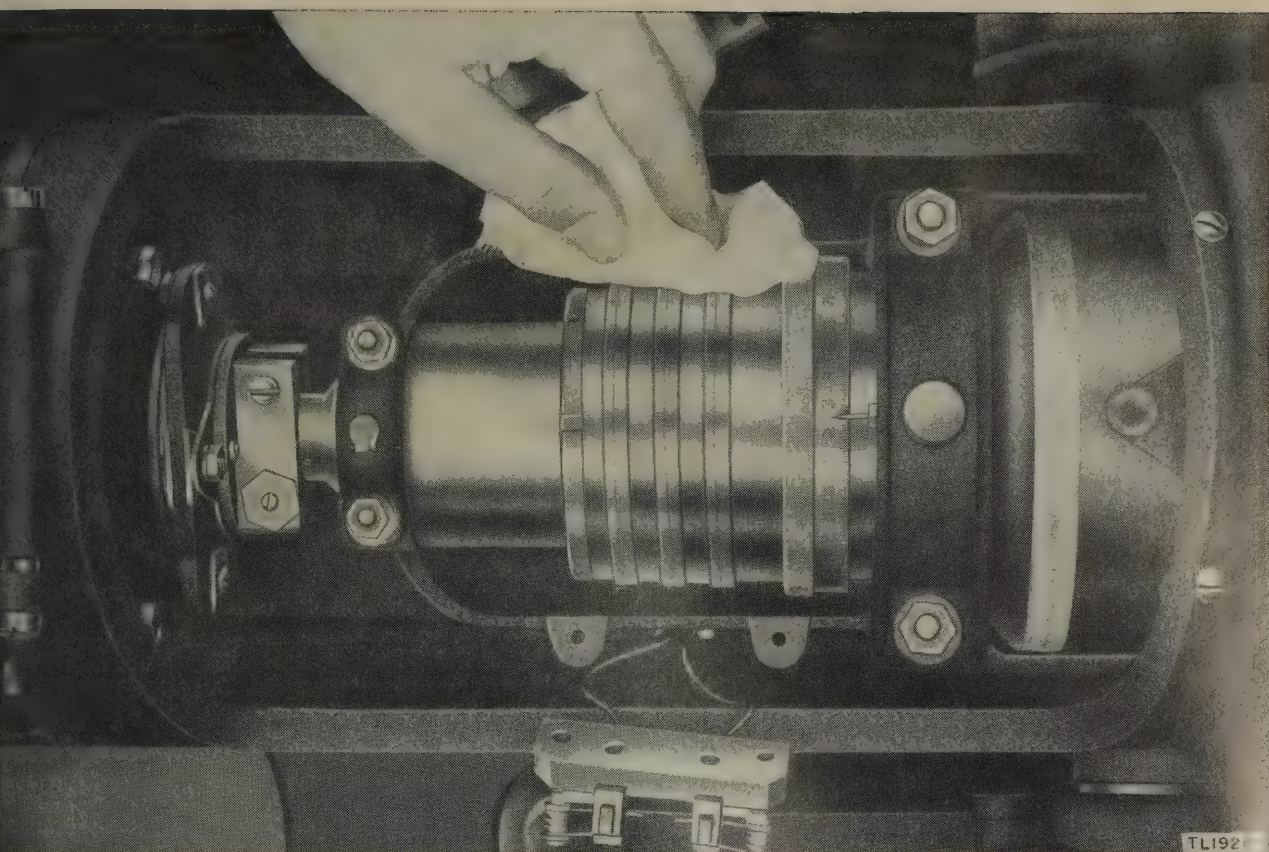
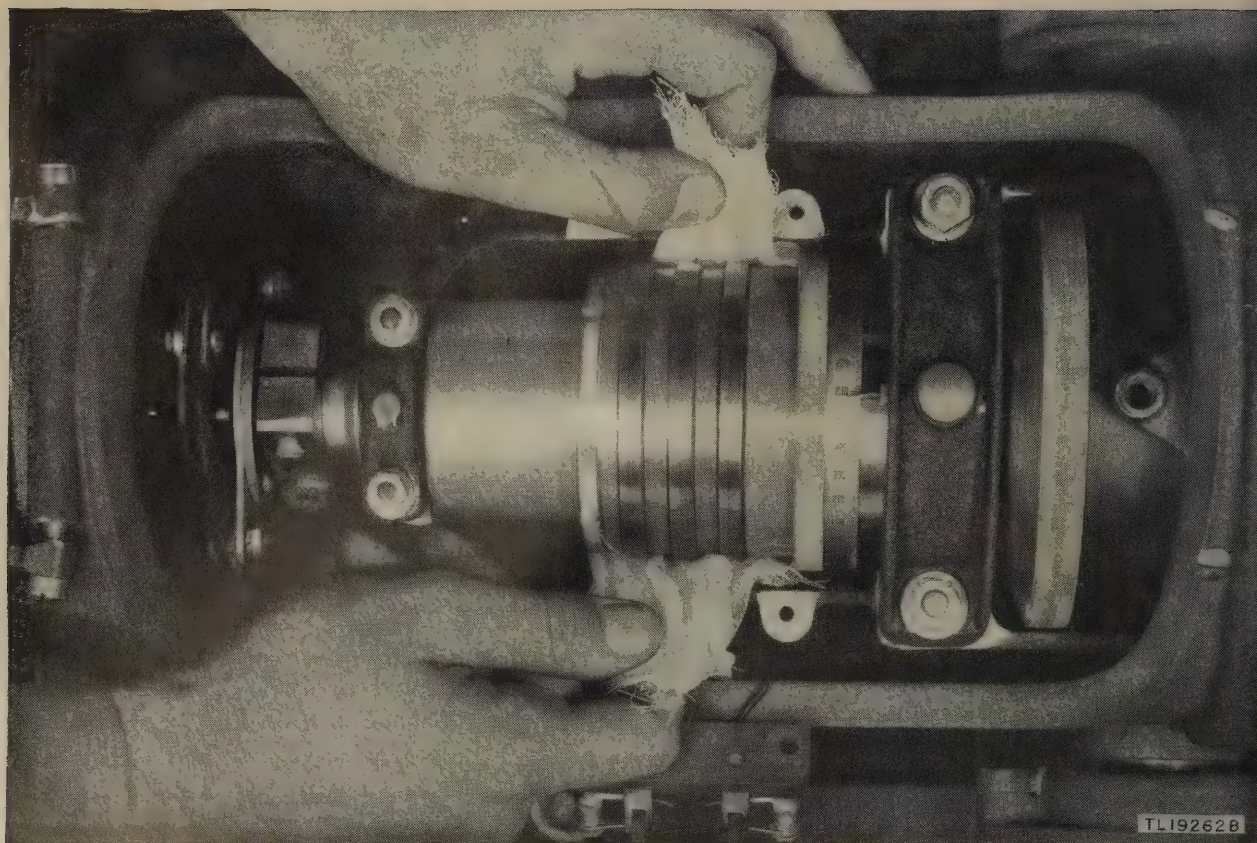

Figure 122. Bearing Indicator BC-1159-A, slip rings and brushes.
Figure 123. Bearing Indicator BC-1159-A, rotating mount.
b. SLIP RINGS AND BRUSHES (fig. 122). The slip rings and brushes should be inspected and cleaned at regular intervals. A jagged or broken circle pattern on the indicator scope screen is usually an indication that the slip rings and brushes require immediate attention. If inspection indicates the need for repair, the defective items should be immediately brought to the attention of repair personnel. To clean the slip rings and brushes, proceed as follows:
- (1) Throw the POWER switch (Control Panel PN-31-A) to OFF, but leave the MOTOR switch at ON.
- (2) Remove the screws from the bakelite brush holders and hang the assemblies over the side of the indicator housing.
- (3) Saturate a small pad of cheesecloth with carbon tetrachloride. With the motor running, hold the cloth firmly against the slip rings.
- (4) Turn the MOTOR switch to OFF. Clean the brushes and brush holders with carbon tetrachloride.
- (5) Replace the brush holders.
c. ROTATING MOUNT (fig. 123). The rotating mount should be cleaned regularly. The cleaning operation may be performed while the brush holders are removed for cleaning the slip rings and brushes. However, the cleaning operation should be performed whenever inspection indicates the need. To clean the rotating mount, proceed as follows:
- (1) Throw the MOTOR and POWER switches of Control Panel PN-31-A to OFF.
- (2) Remove the brush holder assemblies (b above).
- (3) Saturate a long, narrow pad of cheesecloth (about 4 by 10 inches) in carbon tetrachloride. Pass one end of the cloth under the slip rings. Rotate the rings by hand and feed the pad through until it can be reached on the other side of the rings.
- (4) Pull the pad back and forth to remove